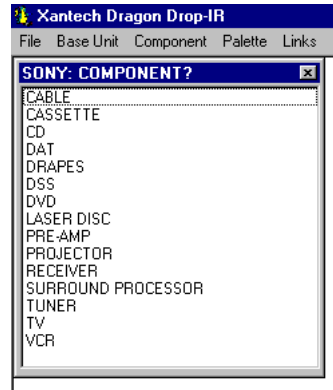

Figure 4 - Component
3. Locate and Select (single click) the type of COMPONENT as shown in Figure 4 (DVD, SAT etc) (See later sections for adding types).